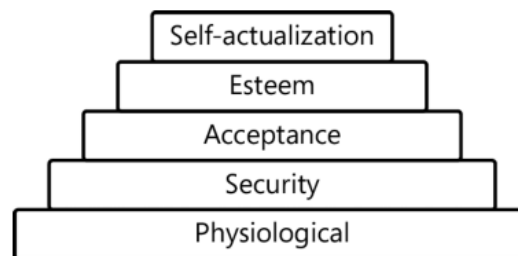

FIGURE 7-8 Maslow's hierarchy of needs.
- *Maslow's hierarchy of needs* describes a situation whereby people perform at their best when they have the opportunity to be what Maslow refers to as "self-actualized." This is the top of the needs pyramid he describes. However, people want to fulfill the bottom needs first and cannot fulfill higher needs until lower ones are fulfilled, and the current need will always take precedence. So if people are concerned about their physiological well-being—for instance, if they can't afford groceries—then they will not be able to gain acceptance and esteem. Figure 7-8 shows the levels in Maslow's hierarchy of needs.